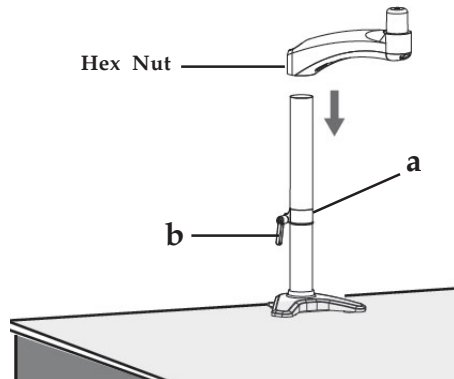

Figure 11
2. Install the Position Ring (a) at the desired height and tighten the screw (b). Slide the Extension Arm over the steel tube until it rests on the Position Ring, then tighten the Hex Nut finger tight using a 3mm Allen Key, see Figure 11.